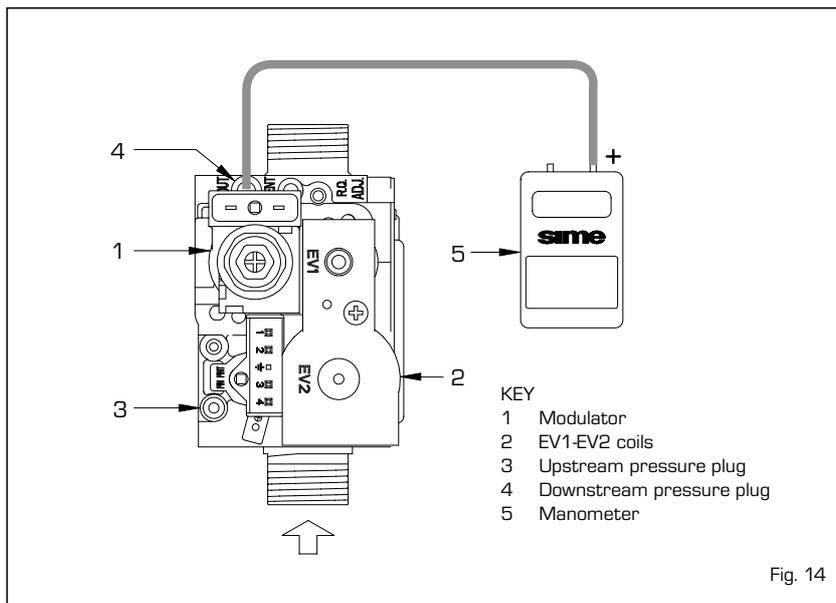

Fig. 14
The boiler model SIT 845 SIGMA (fig. 14) is produced with gas valve set at two pressure values: maximum and minimum, that correspond according to the type of gas to the values indicated in **Table 2**.
- Connect a differential manometer as shown in fig. 14.
- Remove the plastic cap of the modulator (1).
- Using a  $\varnothing 10$  wrench turn the nut (3) to find the maximum pressure as shown in **Table 2**: to reduce the pressure turn the nut anti-clockwise, to increase the pressure turn the nut clockwise.